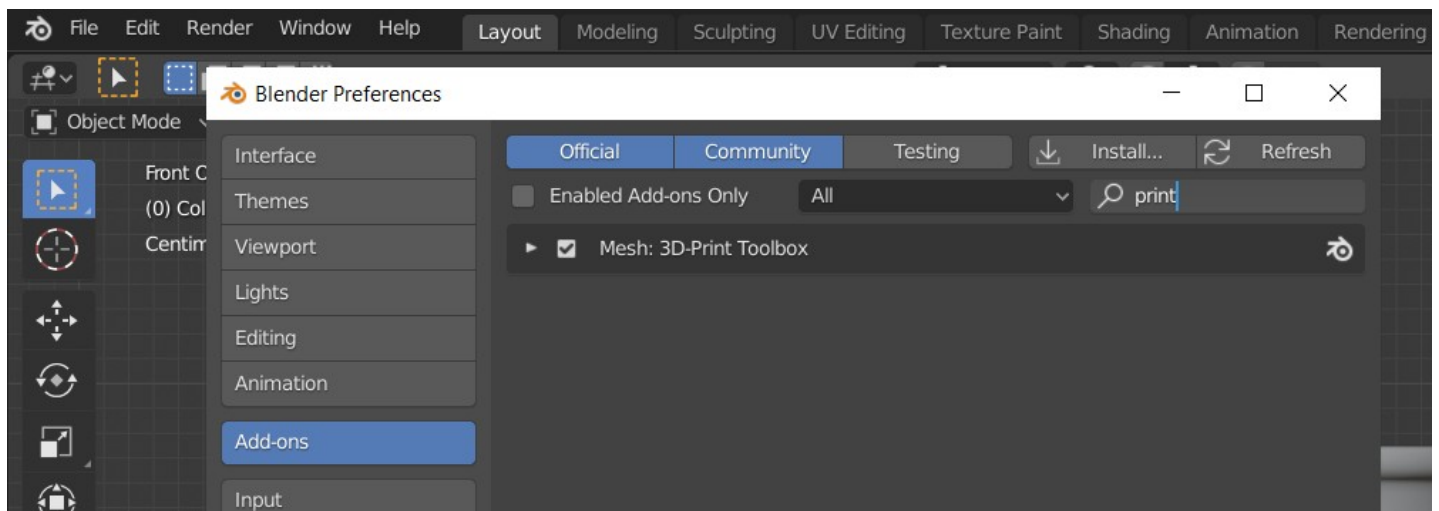

Figure 30
- 1) We will use the Blender add-on 3D Print toolbox to extract these measurements. This add-on doesn't require installation but needs to be set active in the user preferences (**Fig. 30**).